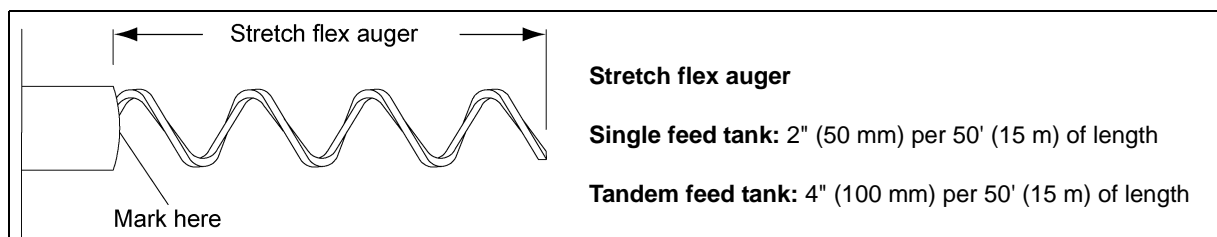

Figure 5V Stretching the Auger
7. Draw the auger out of the tubing as far as required. Measure the length between the mark and the unloader inlet. Mark the auger again at the unloader inlet when properly stretched. (See Figure 5V on Page 28.) Stretching the auger too far will cause premature wear at the inside bends of the PVC tubing. Stretching the auger not far enough will cause premature wear at the outside bends of the PVC tubing.